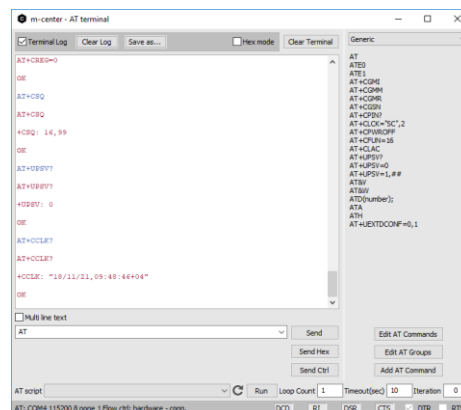

Figure 9: AT terminal window
- Click **AT Terminal** at the upper right of the **Home** page. A new window opens and the AT command terminal is now ready for communication with the EVK-R4, as shown in Figure 9